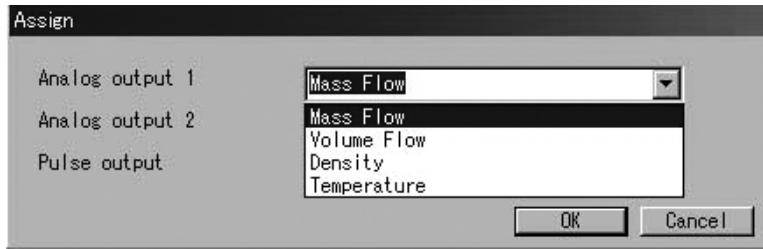

Fig.22
- ③ Assign individual items : click on the arrow mart at right of the field and select your option from the drop-down list as shown in Fig. 22.